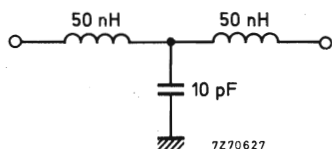

Fig. 11.
- A low-pass filter (Fig. 11) with a cut-off frequency of about 300 MHz has to be inserted between the v.h.f. aerial terminal of the tuner and the aerial terminal of the receiver. Television receivers with a common v.h.f./u.h.f. connector in combination with a low-pass/high-pass splitter ¹⁾ may not need this additional filter.